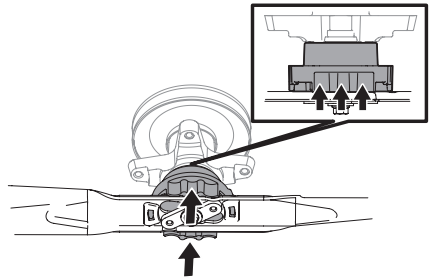

Figure 44
3. Push upward on the blade collar and hold it. See Figure 44.
- Push the blade upward against the blade adapter until the collar above rises. See Figure 44.